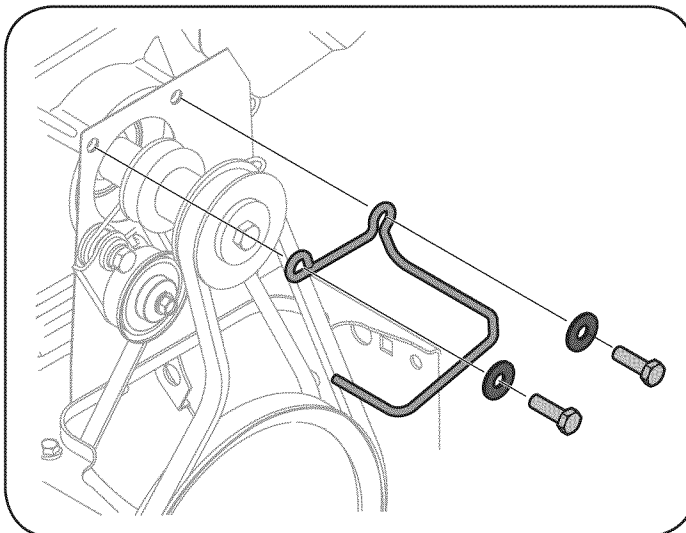

Figure 29
3. Loosen and remove the two bolts and flat washers securing the belt guide. See Figure 29. Remove belt guide.